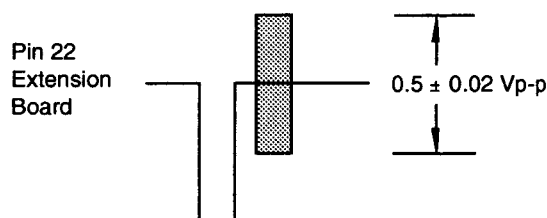

Fig. 4-2-15
- Adjust VR3 so that the Burst level of the Gen-Lock signal becomes  $0.5 \pm 0.02$  Vp-p as shown in the Fig. 4-2-15.